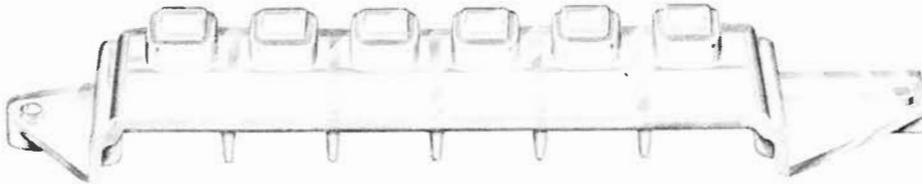

Fig. 2 - 105-Type Apparatus Blank
3.03 The 105-type apparatus blank (see Fig. 2) is a molded white plastic blank that has the appearance of a 598- or 599-type key. It is used to fill unequipped key spaces.